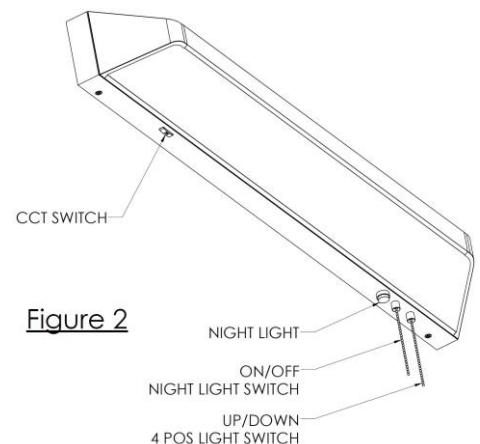

Figure 2
- Connect the white wire from the fixture to the white (N) wire from the supply power source.
- Connect the black wire from the fixture to the black (L) wire from the supply power source.
- Install the fixture (3) to the mounting bracket (1) using four screws (4) to secure it.
Step 6 – Operation (Figure 2)